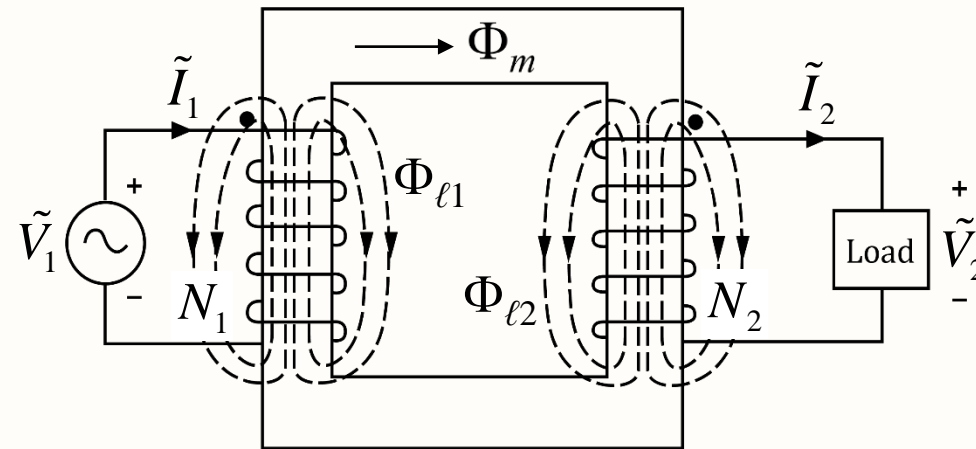

Fig. 10. Transformer with mutual and leakage fluxes.
- ❖ In addition to the mutual flux Φ_m , there are leakage fluxes $\Phi_{\ell 1}$ and $\Phi_{\ell 2}$, which link only the primary and the secondary windings respectively as shown in Fig. 10.